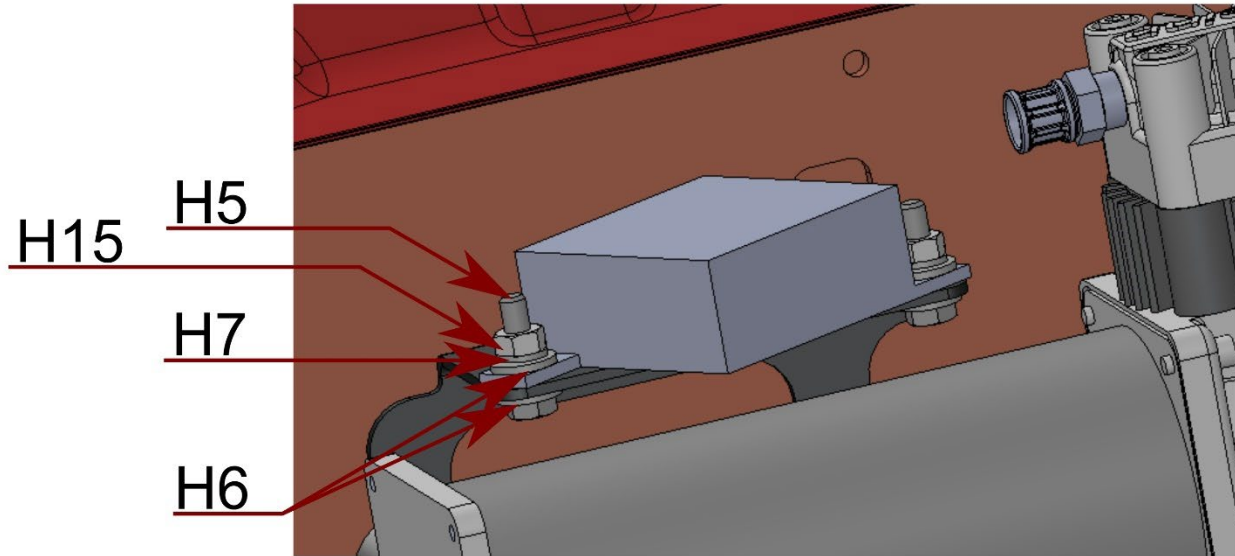

Figure 33- Computer Module, Hardware Stacking Order
6. Fully tighten hardware H1 & (if required), attach the module to the relocation bracket using hardware H5, H6, H7 & H15 as shown in the above Figure 33.